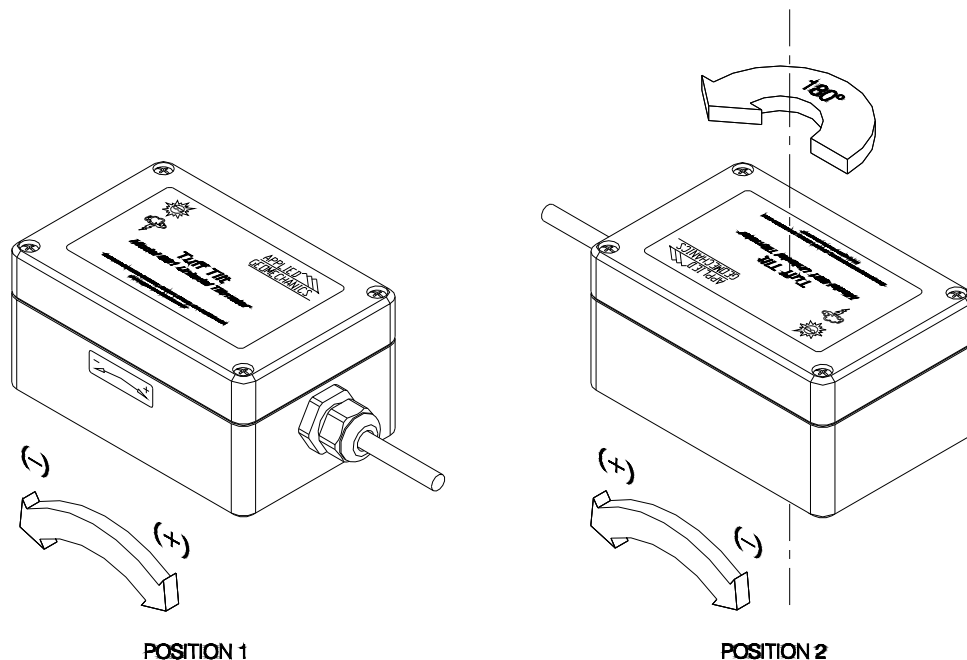

Figure 3. Measure tilt angles in these two positions to compute clinometer bias.
2. Rotate the tiltmeter 180 degrees on the surface so that it is facing the opposite direction (Figure 3). Read the new output voltages V_{X2} and V_{Y2} and compute the angles θ_{X2} and θ_{Y2} using the same procedure as in step 1 above. The scale factors are the same for both steps.